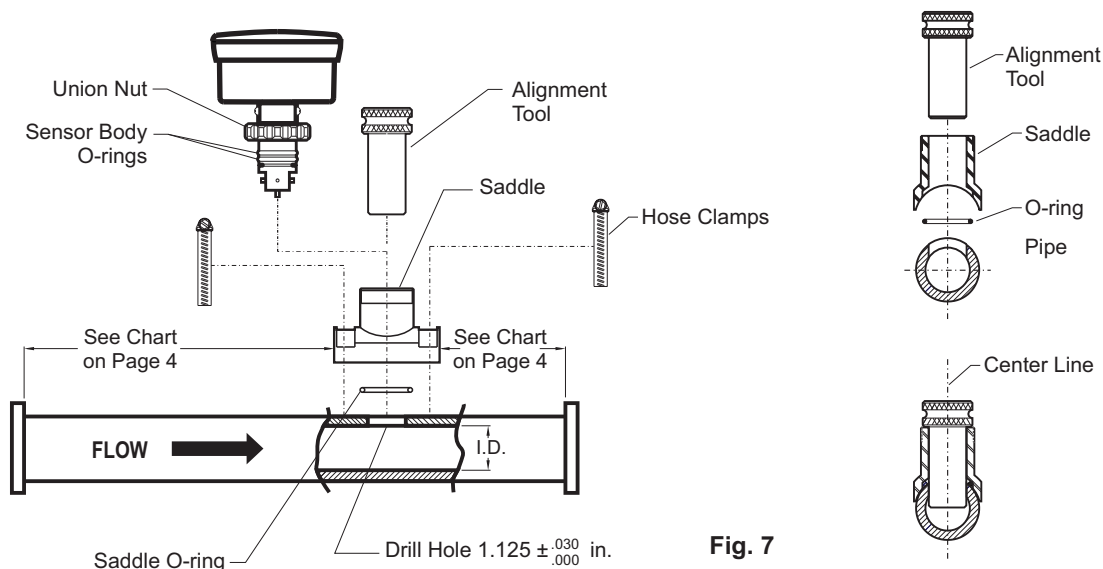

Fig. 7
- The meter can be mounted on horizontal or vertical runs of pipe (see figure 3 and 4). Mounting at the vertical (twelve o'clock) position on horizontal pipe is recommended (see figure 7). Mounting anywhere around the diameter of vertical pipe is acceptable, however, the pipe must be completely full of water at all times. Back pressure is essential on downward flows.
- Be sure two O-rings are located on the sensor body (see figure 7). The O-rings have been lubricated at the factory with silicone oil.